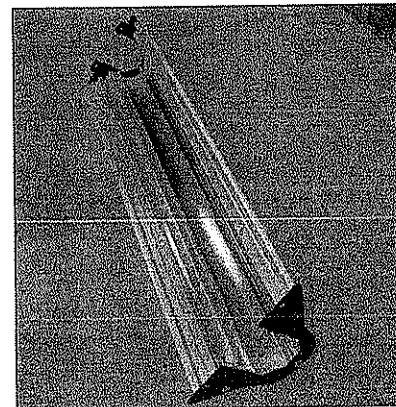

Figure 6: Back Housing Assembly
- b. The back housing, which wraps around the pole (see Figure 6).